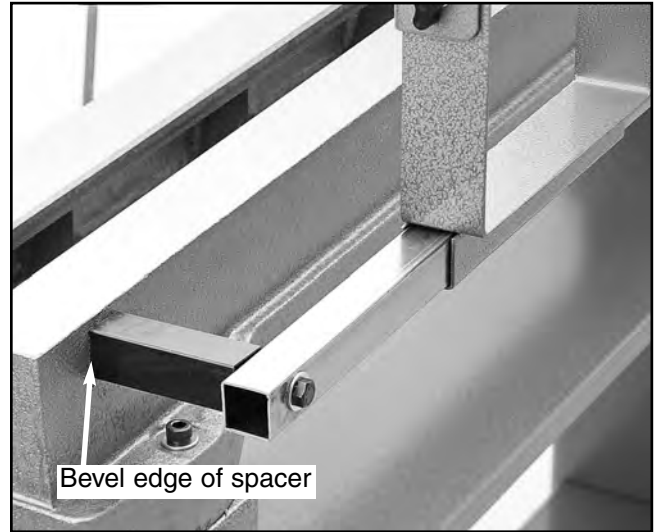

Figure 11. Bar mounted with spacer tube.
1. Mount one end of the sliding bar to the back of the lathe bed using the spacer tube, the long bolt and washer provided. **See Figure 11.** Ensure that the spacer tube bevel is against the lathe bed, positioned so the bar will be level and parallel to the bed.